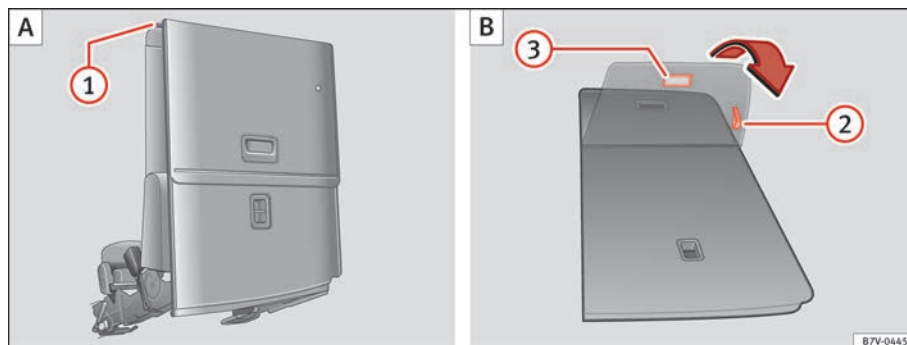

Fig. 90 Third row of seats: fold down the rear seat to load (A) then return to position (B).
- If necessary, pull on the lever ⇒ fig. 90 ② to move the seat to the required position.
- Pull on the handle ⇒ fig. 90 ② to put the seat tray back in position.
- Pull on the handle ③. The entire seat folds backwards.